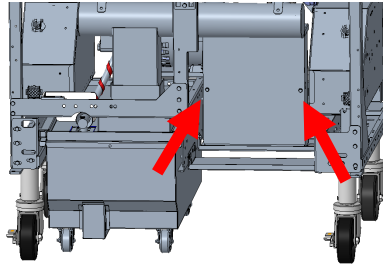

Fig 1
3. Locate and remove ATO box cover and carefully disconnect wiring from ATO Pump (Figures 1 & 2).